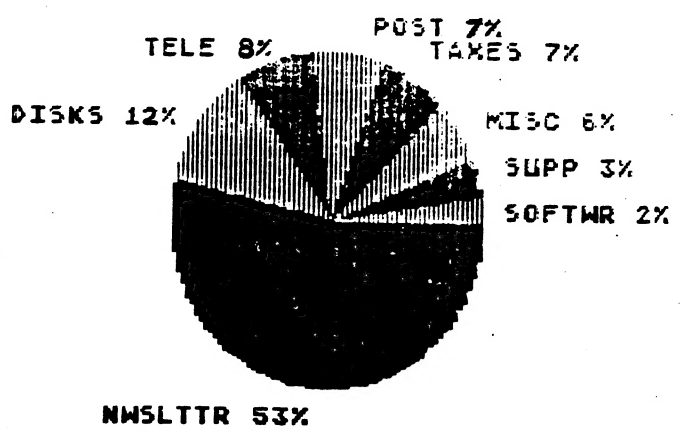

Fig. 2
- The costs involved in producing the newsletter constitute 53% of the club's expenses (See fig. 2), and